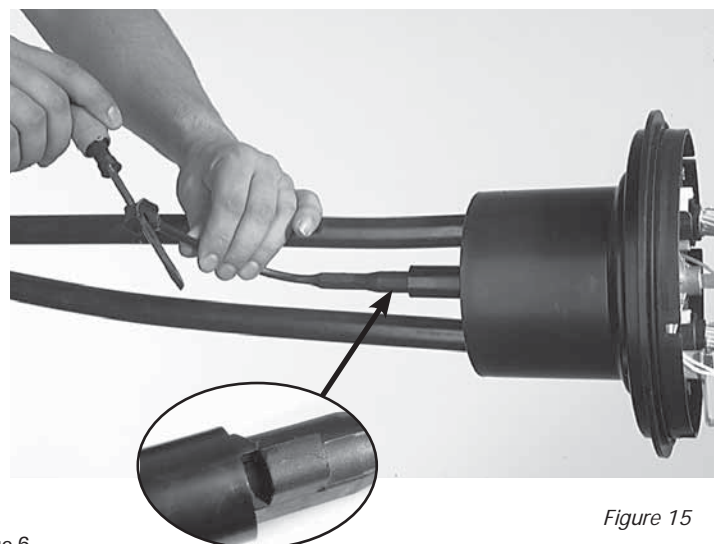

Figure 15
6. Pull the gel end piece "tail" away from the closure to seat the gel end-piece to the end of the base. Turn the "tail" clockwise until it dead ends at the physical stop to seal cables and plugs. (Figure 15)